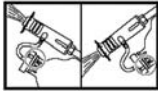

Figure 4
- Rotate indicator on Soap Tank cap to "UP" or "DOWN" position (Figure 4). Use "UP" to spray at an upward angle (for example, to reach the second story of a building). Use "DOWN" to spray at a downward angle for a patio or deck.